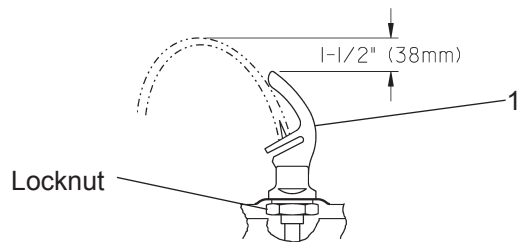
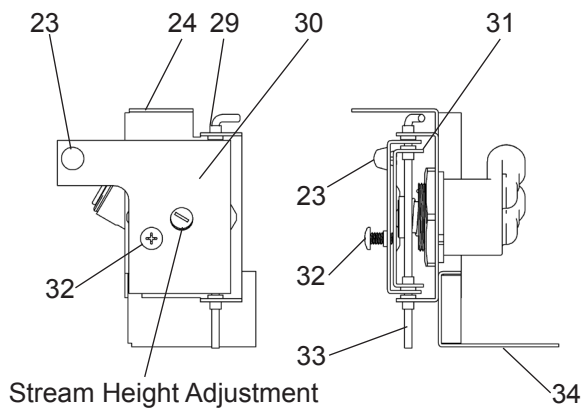
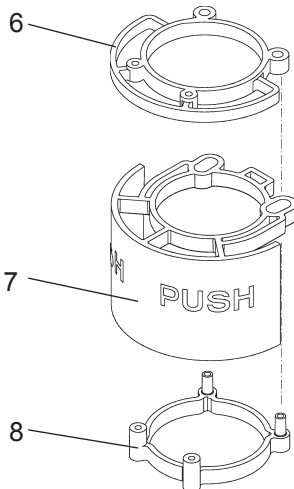

Figure 6 - Bubbler Detail
Figure 7
Figure 8 - Push Bar Mechanism
14. **Check** stream height from bubbler. Stream height is factory set for 35-40 PSI supply. If supply pressure varies greatly from this, remove items 6, 7, and 8 (push arm and the bottom and the top actuator plates – Figure 8) by removing the screws holding assembly together and adjust the screw on the regulator (Item 19 – Figs. 7 & 9). Clockwise adjustment will raise stream height and counterclockwise movement will lower stream height. For best adjustment, stream height should be approximately 1-1/2" (38mm) above the bubbler guard. (See Figure 6).
When installing replacement bubbler and pedestal (Fig 6), tighten locknut only to hold parts snug in position. **Do Not** overtighten.